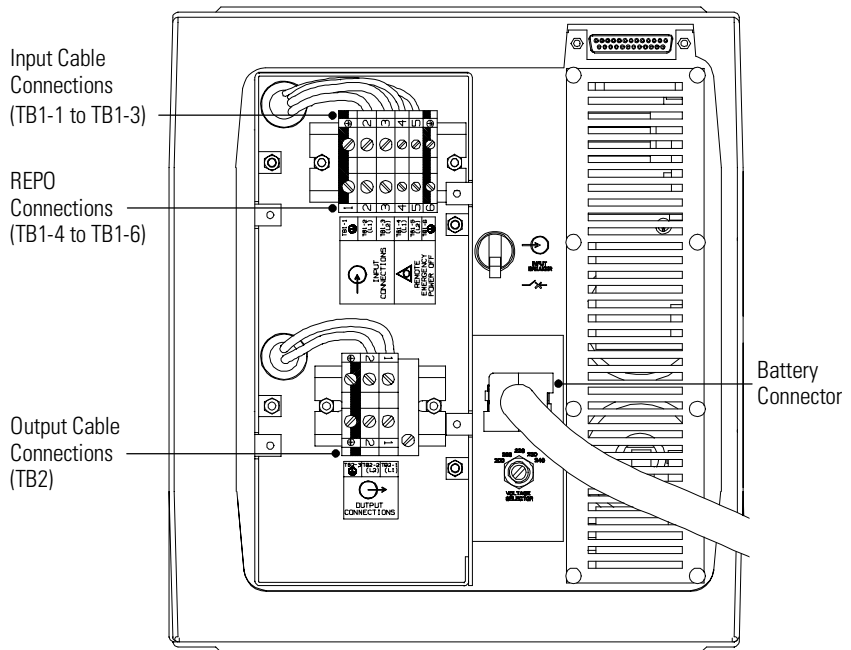
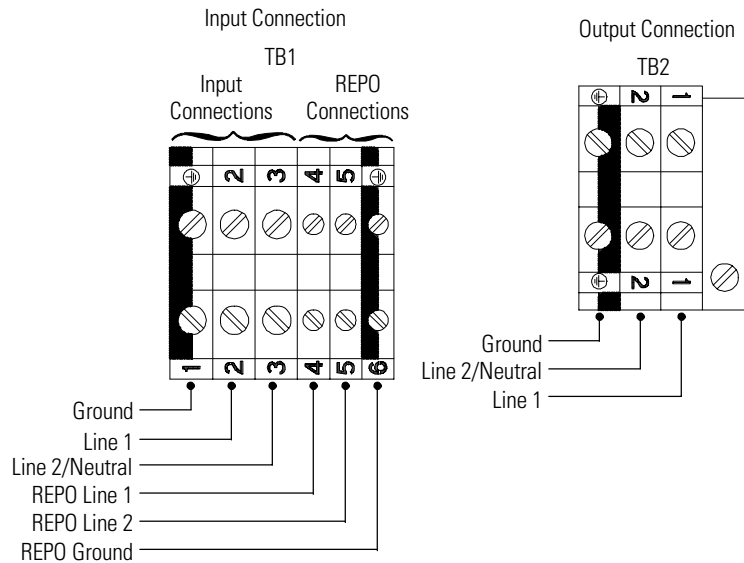

Figure 10. Hardwired PPU with Rear Panel Cover Removed
Figure 11. Hardwired PPU Terminal Blocks
6. Hardwire the input (TB1-1 through TB1-3) and output terminations (TB2) for the PPU. See the following hardwired terminations table for specifications. See Figure 11 for a detailed view of the terminal blocks.
9. If you are using a REPO switch, hardwire the terminal block TB1, positions TB1-4 through TB1-6. See the hardwired termination table on page 33 for proper connections. Figure 10 on page 32 shows the connection locations and Figure 11 on page 34 shows a detailed view of the terminal blocks.